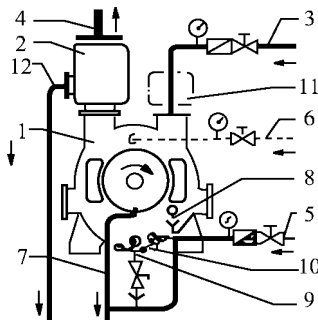

Figure 4 A small steam-water separator is installed on the exhaust pipe.
7.2.1.1 Open loop system (see Figure 4 and 5)